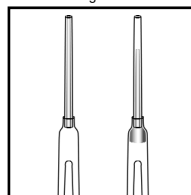

Figure 3
5. **Required for R-5510D only:** Pull the VACUette into a vertical position. A small portion of the collected sample should fall into the sleeve of the VACUette tip (fig. 3).